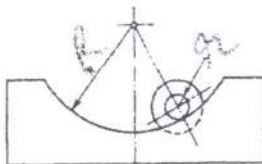

Fig. 1
2. A disk of mass  $m$  and with moment of inertia  $J_0$  is set on a hub of radius  $r$  (Fig. 1). The disk hub is supported by a curvilinear circular guide of radius  $R$ . Assuming the disk motion to occur without slipping between the hub and the guide, set up the differential equation for small free vibrations of the disk and write the frequency of oscillation of the disk. 10